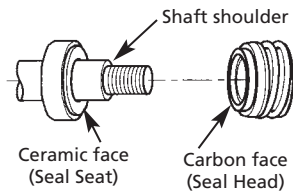

Figure 2 - Seal Installation
- Wet the inside rubber portion of new seal head with a light coating of soapy water. Slide head onto motor shaft with sealing surface facing seal seat (see figure 2).